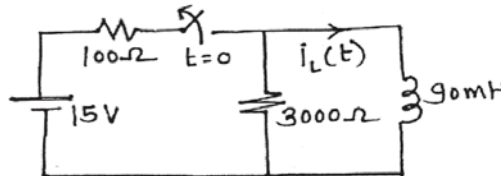

Fig. 2
- c)** For the network shown in Fig. 2, steady state is reached with switch closed. The switch is opened at $t = 0$. Obtain expressions for $i_L(t)$ for $t > 0$. [6]